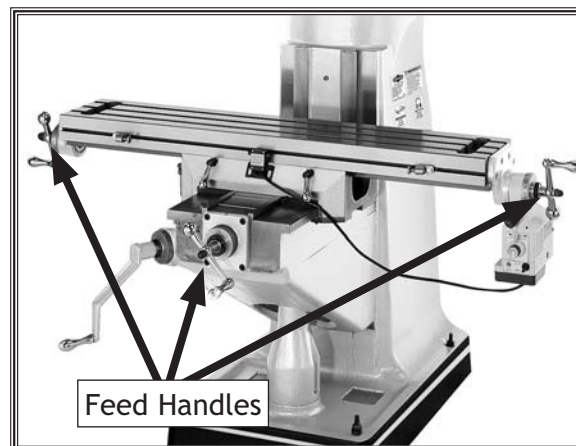

Figure 12. Feed handle locations.
4. Repeat this process for all the feed handles shown in Figure 12.